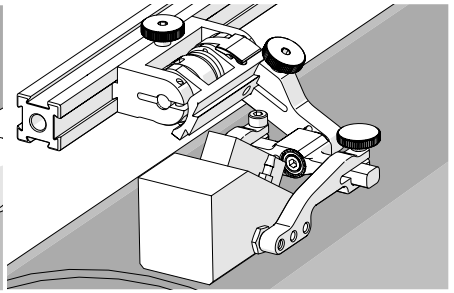

Fig. 112 - Spring loaded scan position
4. Gently lower probe holder and wedge to the scanning surface (Fig. 112).